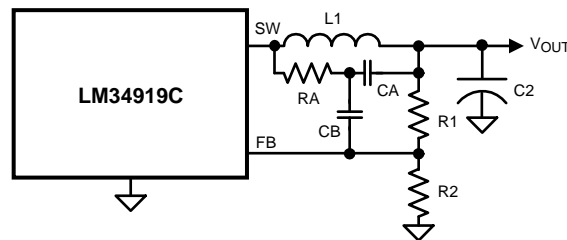

Figure 13. Minimum Output Ripple Using Ripple Injection
b) Minimum ripple configuration: The circuit of Figure 13 provides minimum ripple at V_{OUT} , determined primarily by characteristics of $C2$ and the inductor's ripple current since $R3$ is removed. R_A and C_A are chosen to generate a sawtooth waveform at their junction and that voltage is AC-coupled to the FB pin via C_B . To determine the values for R_A , C_A and C_B , use the following procedure: